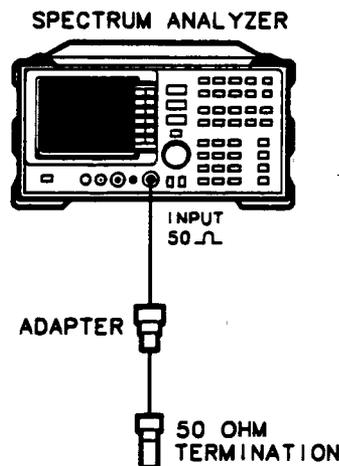

Figure 3-3. Displayed Average Noise Test Setup
4. Connect the HP 909D 50Ω termination to the HP 8562A/B INPUT 50Ω as shown in Figure 3-3.